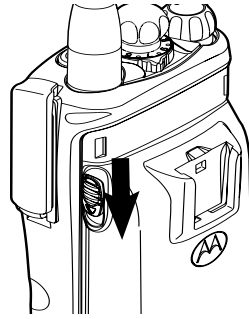
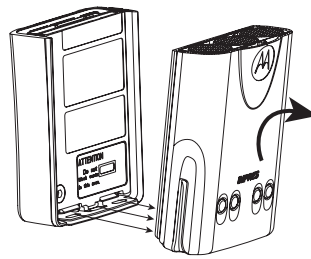

Figure 19. Removing the Battery
Figure 20. Removing the Battery
2. Remove the battery completely from the radio (see Figure 19 and Figure 20 on page 43).